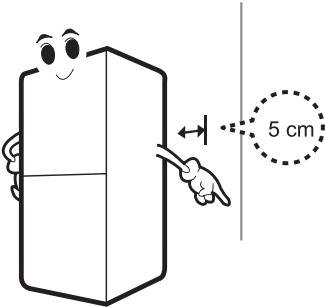

Figure 1. Installation of refrigerator from the wall
- The refrigerator is not a built-in appliance. Free space not less than 5 cm should be provided from above, from its rear and side faces for air circulation and reduction of power consumption. Fig.1;